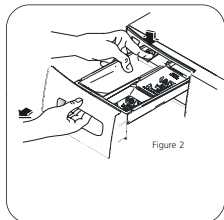

Figure 2
- Reach back into the left rear corner of the drawer cavity and press down firmly on the lock tab (left rear portion of the drawer). Pull out the drawer. (Figure 2). (Lock tab is visible only after drawer has been pulled out).